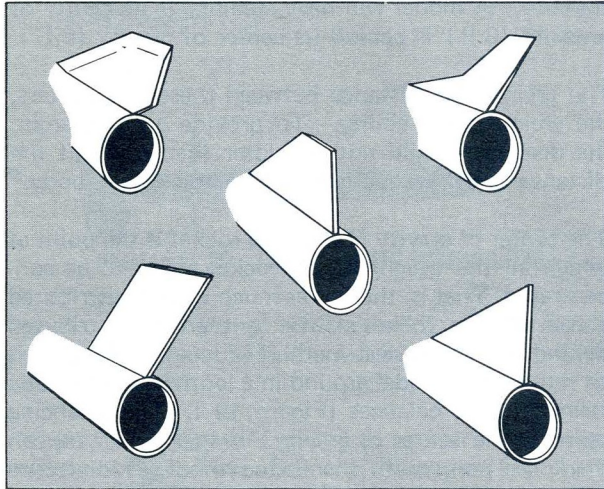

FIGURE 14 THE FINS
3. The Fins. Fins, and any other attachment to the rocket, will also increase drag. Figure 14 shows some of the fin shapes that can be used on a model rocket. Others can be designed by modifying or combining the shapes shown. Although the fins create some drag, they are needed to make the rocket stable and fly correctly.